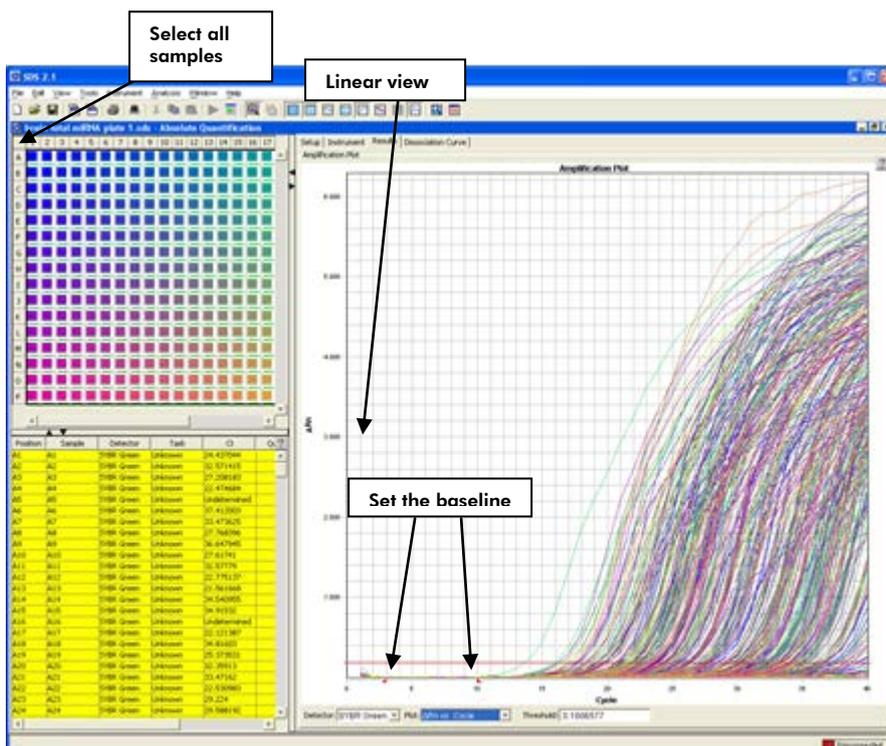

Figure 4. Setting the baseline.
13. Follow the procedures below to select the baseline and threshold manually (see figures 4 and 5):